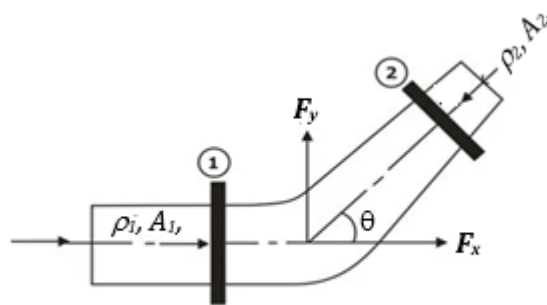

Figure 9
19. A curved pipe was deflected to reduce the pipe diameter from 1.5 m to 0.5 m. The deflection of fluid is 60° . The pressure at the bend = 555 kN/m^2 and 255 kN/m^2 . The flow rate is 25 L/s . Based in figure 9, calculate magnitude and direction of the resultant force on the vane. (Ans: 29534.856 N , 73°)